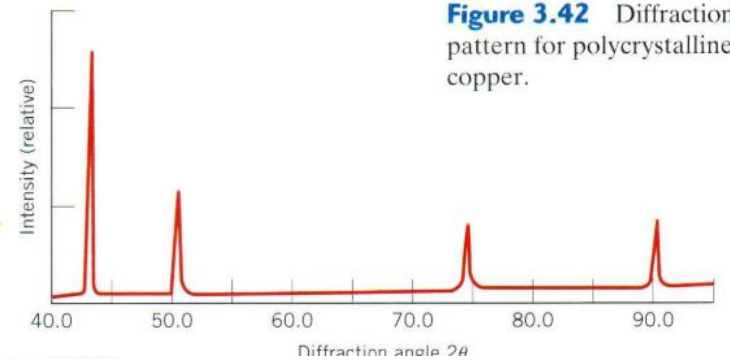

Figure 3.42 Diffraction pattern for polycrystalline copper.
- 3.90** Figure 3.42 shows the first four peaks of the x-ray diffraction pattern for copper, which has an FCC crystal structure; monochromatic x-radiation having a wavelength of 0.1542 nm was used.